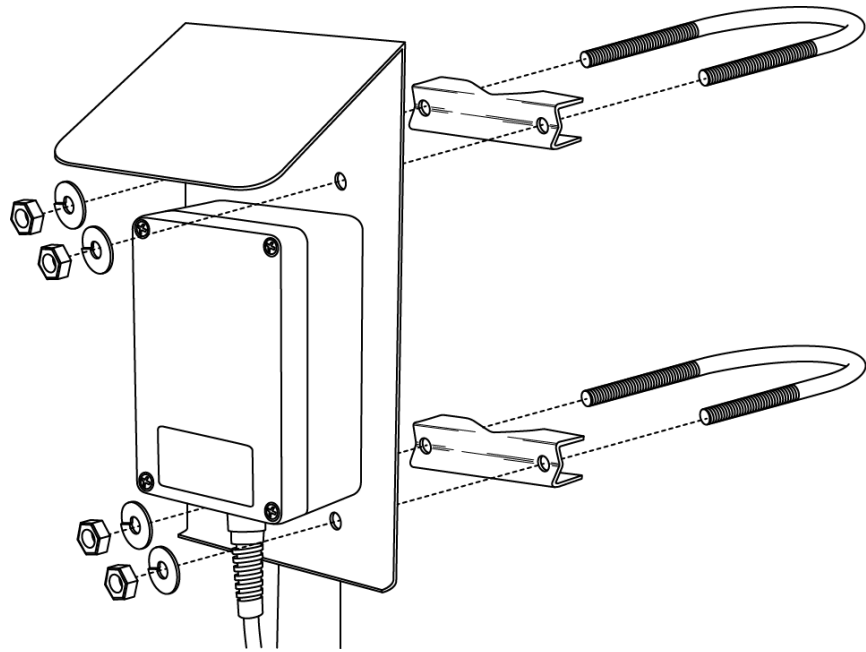

FIGURE 7-1. 092 installed on a vertical mast
2. Attach the 092 to the tripod or tower leg using the supplied U-bolts. FIGURE 7-1 shows the 092 installed on a vertical mast.